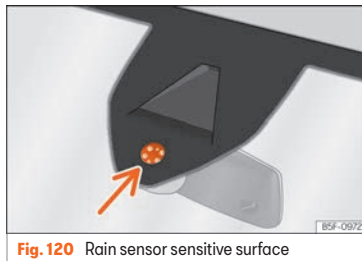

Fig. 120 Rain sensor sensitive surface
Possible causes of faults and mistaken readings on the sensitive surface »» **Fig. 120** of the rain sensor include:
- Clean the sensitive surface of the rain sensor regularly and check the blades for damage » Fig. 120 (arrow).